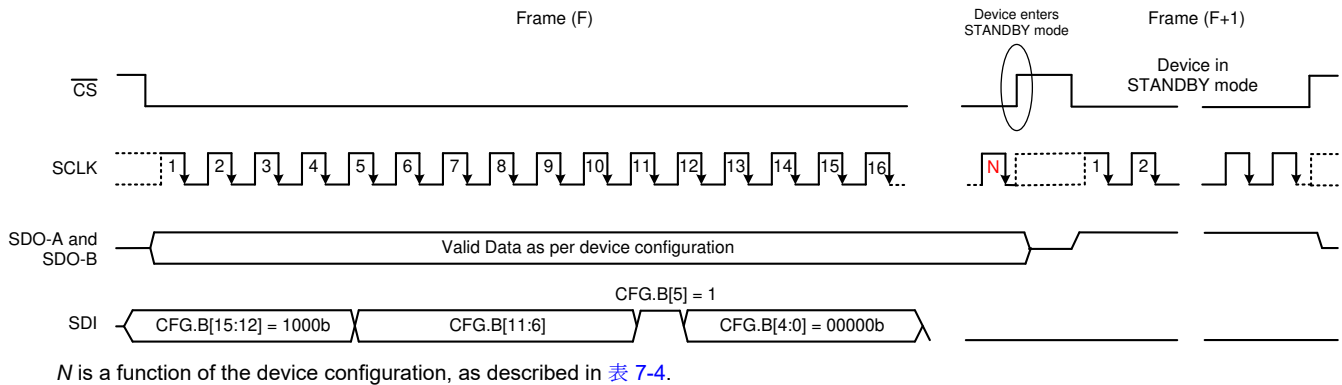

图 7-8. Enter STANDBY Mode
As shown in 图 7-8, a valid write operation in frame (F) programs the configuration register with B5 set to 1 (CFR.B5 = 1) and places the device into a STANDBY mode of operation on the following  $\overline{CS}$  rising edge. While in STANDBY mode, SDO\_A and SDO\_B output all 1s when  $\overline{CS}$  is low and remain in 3-state when  $\overline{CS}$  is high.